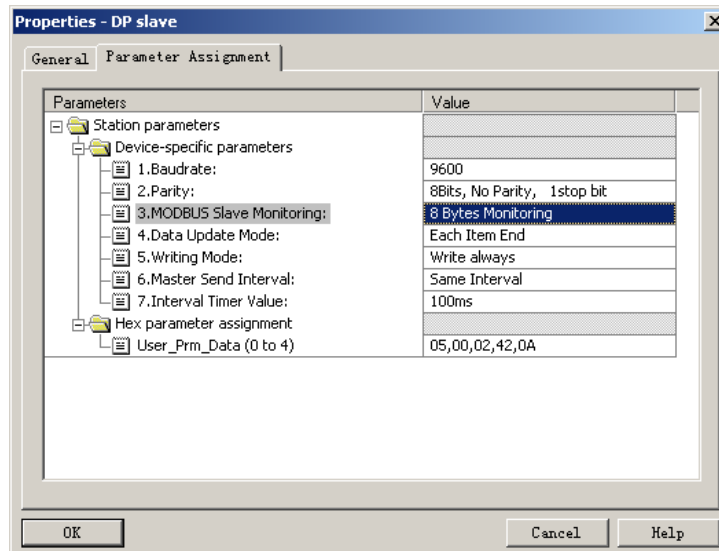

Figure 37 Configure User Parameters of “3.MODBUS Slave Monitoring” Device
a) Configure user parameters of “3.MODBUS Slave Monitoring” device, shown in Figure 37:
As shown in Figure 37, to use xxx bits Modbus slave monitoring module, corresponding Modbus slave monitoring parameters shall be configured in device user parameters. Based on previous 6 examples, here to configure "8 Bits Monitoring", corresponding "8Bits MODBUS Slaves Status" module shall be used.